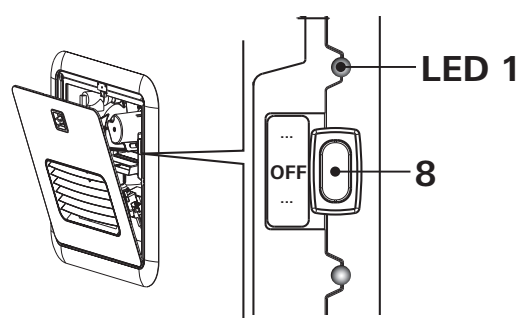

Fig. 8
- Switch off the Truma AquaGo™ instant water heater at mode switch (Fig. 8).